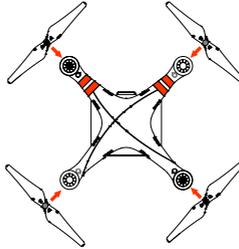

Fig.2
2. (Fig.2) Prepare the two grey nut propellers and two black nut propellers. Make sure to match the black nut propellers with the correctly marked black dot motors. Tighten the propellers according to the fastening instructions.